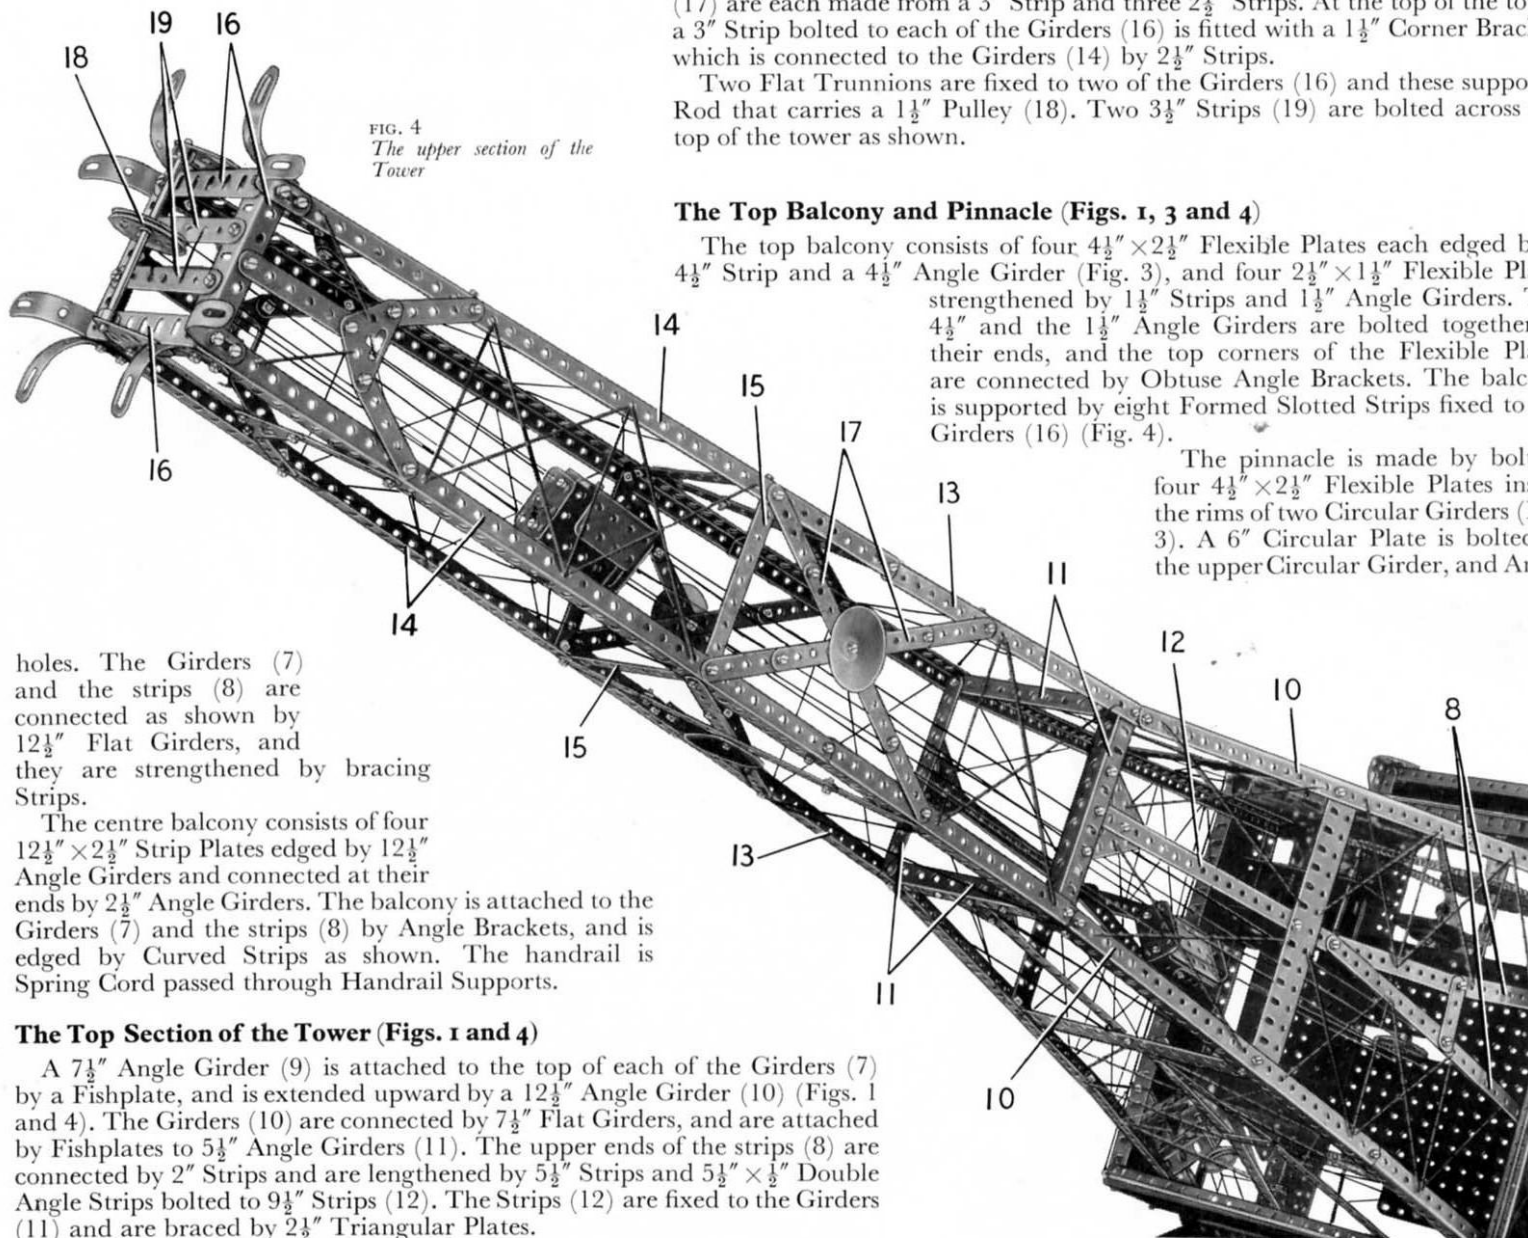
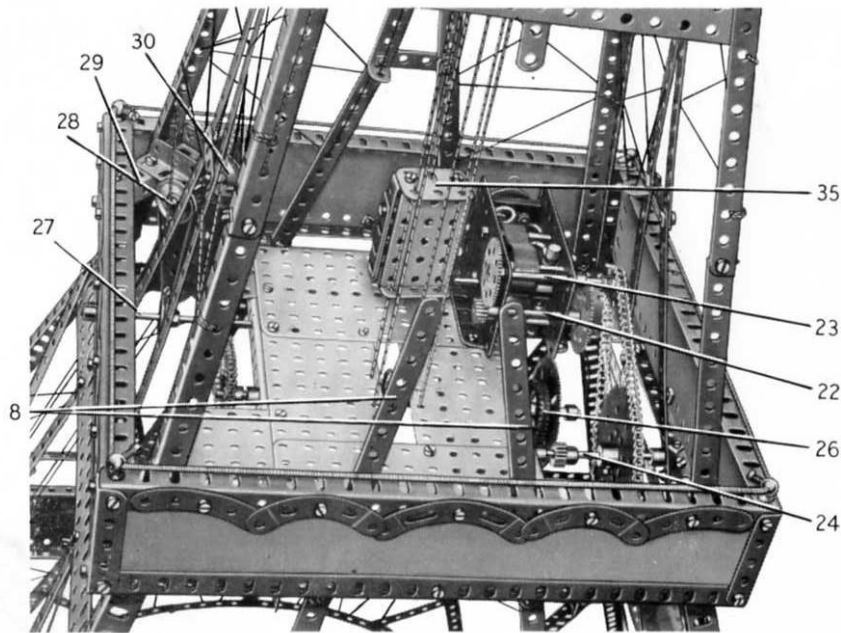
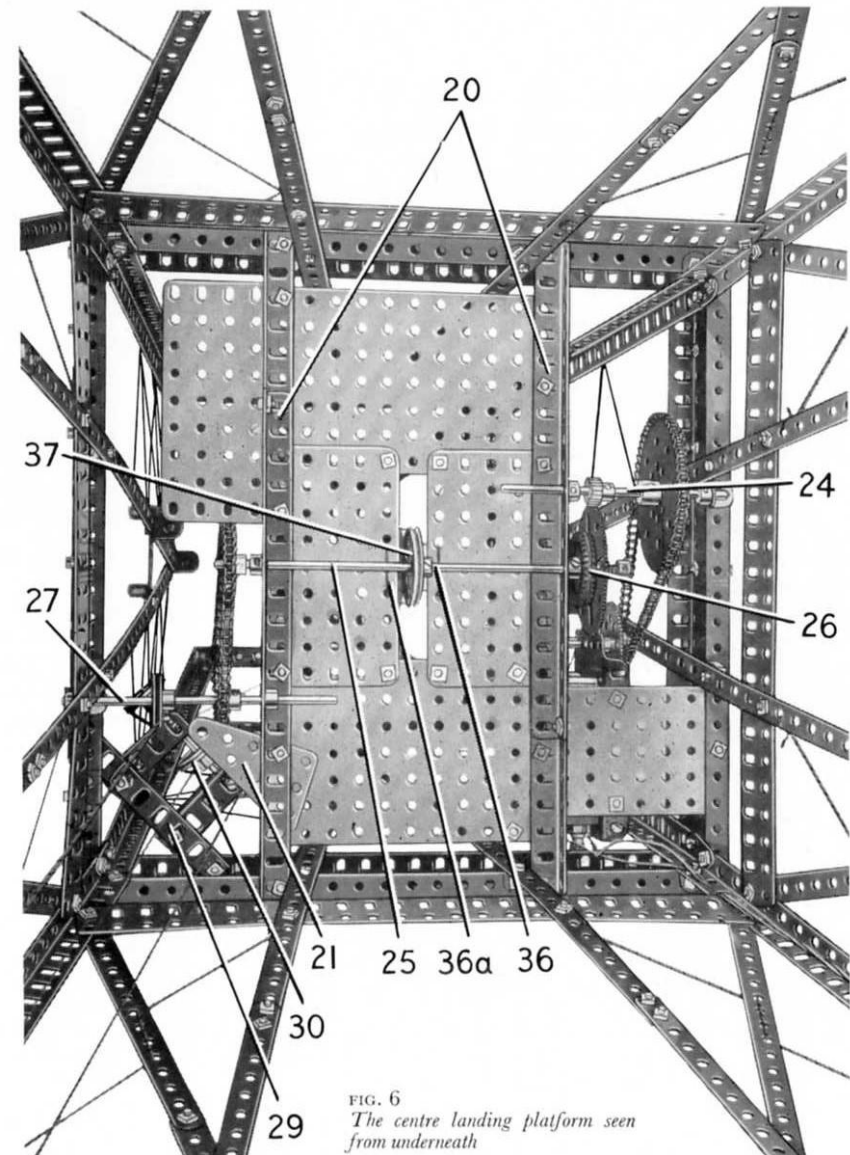

FIG. 4
FIG. 5
FIG. 6
The top balcony consists of four $4\frac{1}{2}$ " \times $2\frac{1}{2}$ " Flexible Plates each edged by a $4\frac{1}{2}$ " Strip and a $4\frac{1}{2}$ " Angle Girder (Fig. 3), and four $2\frac{1}{2}$ " \times $1\frac{1}{2}$ " Flexible Plates strengthened by $1\frac{1}{2}$ " Strips and $1\frac{1}{2}$ " Angle Girders. The $4\frac{1}{2}$ " and the $1\frac{1}{2}$ " Angle Girders are bolted together at their ends, and the top corners of the Flexible Plates are connected by Obtuse Angle Brackets. The balcony is supported by eight Formed Slotted Strips fixed to the Girders (16) (Fig. 4).
The Centre Landing Platform and Operating Mechanism (Figs. 5, 6 and 7)
Two built-up girders (20) (Fig. 6) are bolted underneath the centre balcony and to them are bolted Flat Plates as shown in Figs. 5 and 6. These Plates comprise two 5½" × 3½" Flat Plates and four 4½" × 2½" Flat Plates. A 2½" × 1½" Triangular Flexible Plate (21) is arranged as shown at one corner of the platform.
An E15R Electric Motor is bolted to the platform and a 7/16" diameter Pinion on its armature shaft drives a 60-tooth Gear on a 2½" Rod (22) (Fig. 5). A ½" Pinion on this Rod engages a 57-tooth Gear on a 3½" Rod (23), which carries also a ¾" Sprocket. This Sprocket is connected by Chain to a 3" Sprocket on a Rod (24) mounted in one of the girders (20) and in an Angle Bracket bolted underneath the balcony. A ½" Pinion on Rod (24) drives a 2½" Gear that is loosely mounted on a 6½" Rod (25). A Compression Spring is placed on this Rod between the Gear and a Collar, and it forces the Gear against a Motor Tyre (26) on a 1" Pulley fixed on the Rod. This arrangement forms a
A 1½" Sprocket on Rod (25) is connected by Chain to a ¾" Sprocket on a 5" Rod (27) (Fig. 6). This Rod is mounted in one of the girders (20) and in an Angle Bracket bolted underneath the balcony. A Driving Band is passed round
a 1" Pulley on Rod (27) and round a similar Pulley on a 2½" Rod (28) (Fig. 5). Rod (28) is supported in two 2" Angle Girders bolted to a built-up girder (29). The girder (29) consists of a 3" Angle Girder and a 1½" Angle Girder bolted together. A 1" Pulley (30) is fixed on Rod (28).
The two lifts that operate between the centre platform and the top of the tower are each made by bolting two 2½" × ½" Double Angle Strips between the flanges of a 2½" × 1½" Flanged Plate. A Girder Bracket is fixed to one Double Angle Strip, and a 1½" Flat Girder (35) (Fig. 5) is bolted to each flange of the Flanged Plate. The guide Cord for the lifts is tied to one of the Strips (19) (Fig. 4), is passed through the Flat Girders (35) of one lift, and through the second stage platform as indicated at (36) (Fig. 6). The Cord is passed through the Flat Girders (35) of the second lift and is taken through holes in the Strips (19) before it is again passed through the Flat Girders of the second lift. The Cord is then taken through the centre platform at (36a) (Fig. 6) and is tied to one of the Strips (19).
The operating Cord for these lifts is tied at one end to a Tension Spring placed inside one of the lifts. The Cord is passed through the top 1½" Flat Girder of this lift, round the Pulley (18) and through the top 1½" Flat Girder of the second lift, where it is tied to another Tension Spring. A length of Cord fastened to the lower end of this Spring is passed through the bottom 1½" Flat Girder, is taken round a 1½" Pulley (37) (Fig. 6) on Rod (25), through the bottom of the second lift and is tied to the lower end of the Spring in this lift.